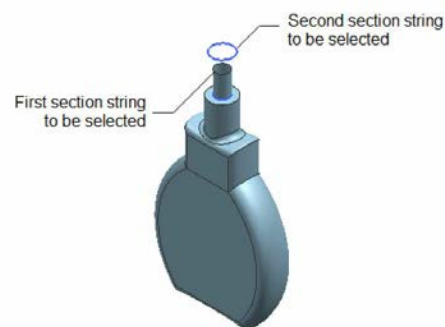

Figure 11-63 Edges to be selected
4. Select the edge as the first section string from the previous extruded feature, refer to Figure 11-63, and press the middle mouse button; you are again prompted to select the section.
5. Select the sketch as the second section string, refer to Figure 11-63 and press the middle mouse button. Make sure the arrows in both sections point in the same direction.